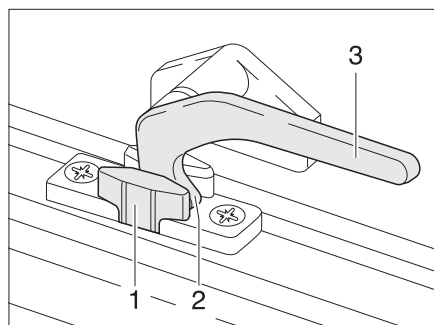

Fig. 40 Catch lever in the "continuous ventilation" position
- "Continuous ventilation" (Bild 40)
- Turn the catch lever (Bild 40,3) a quarter turn towards the centre of the window.
- Turn the catch lever a quarter turn towards the window frame. The locking catch (Bild 40,2) has to be moved into the recess of window catch (Bild 40,1).